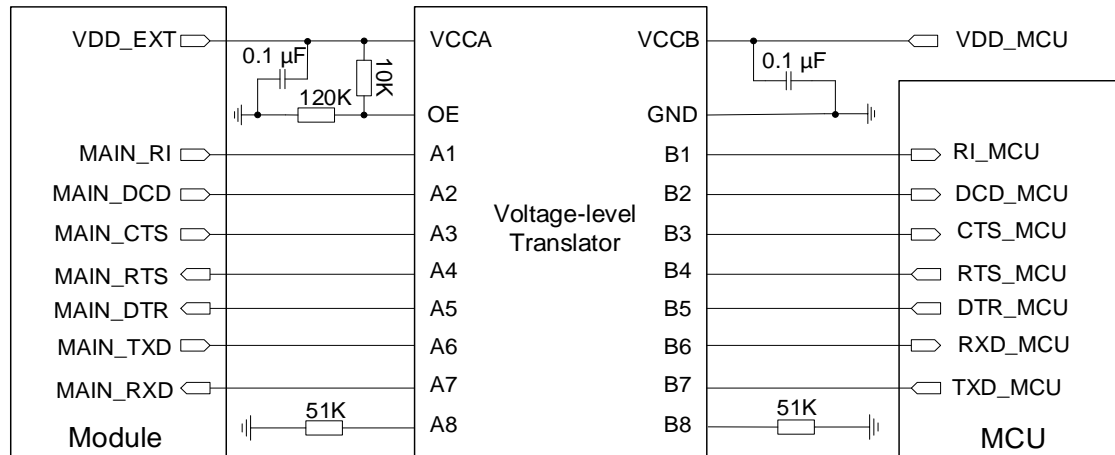
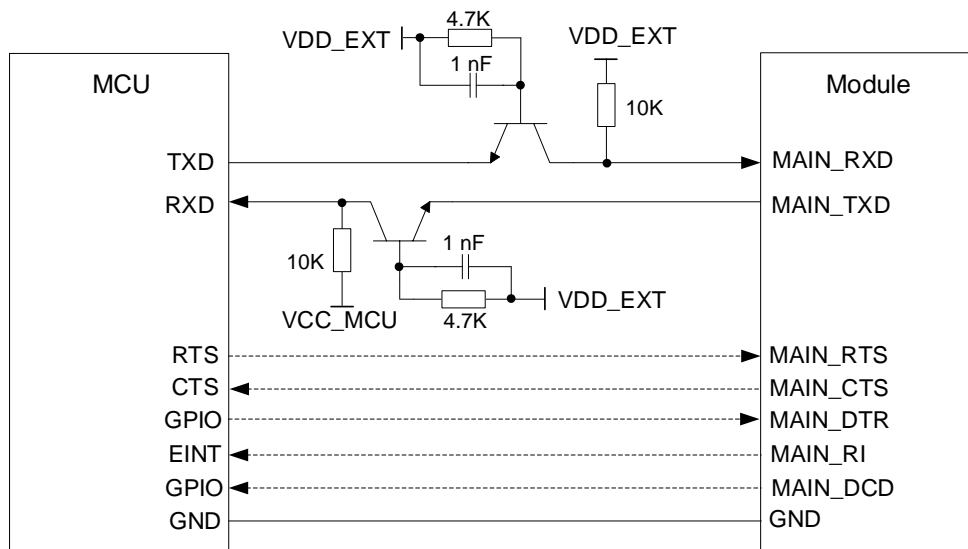

Figure 22: Reference Design of UART with a Voltage-level Translator (Main UART)
Figure 23: Reference Design of UART with Transistor Circuit (Main UART)
4. The level-shifting circuits (**Figure 22** and **Figure 23**) take the main UART as an example. The circuits of the debug UART is connected in the same way as the main UART.